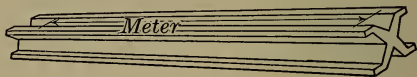

FIGURE 242.—THE STANDARD METER.
**269. The Metric System.** — The same quantities can be measured in the metric system, but the units are different. The unit of length is the *meter* (m.); and it is defined as the distance between two scratches made on a platinum bar kept at Paris. (Figure 242.)